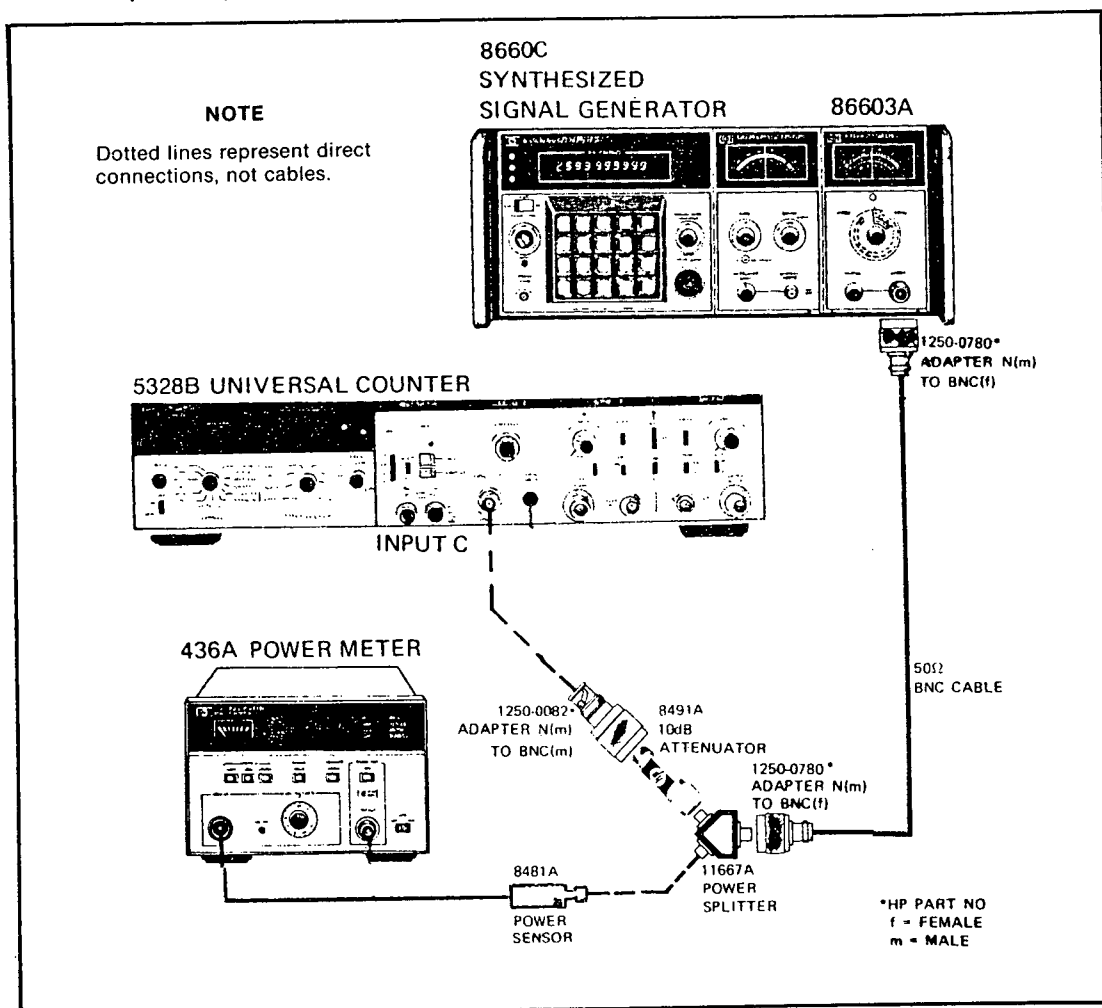

Figure 4-14. Channel "C" — Frequency Response and Sensitivity Test — Setup
- Set up the equipment for this test as shown in Figure 4-14.